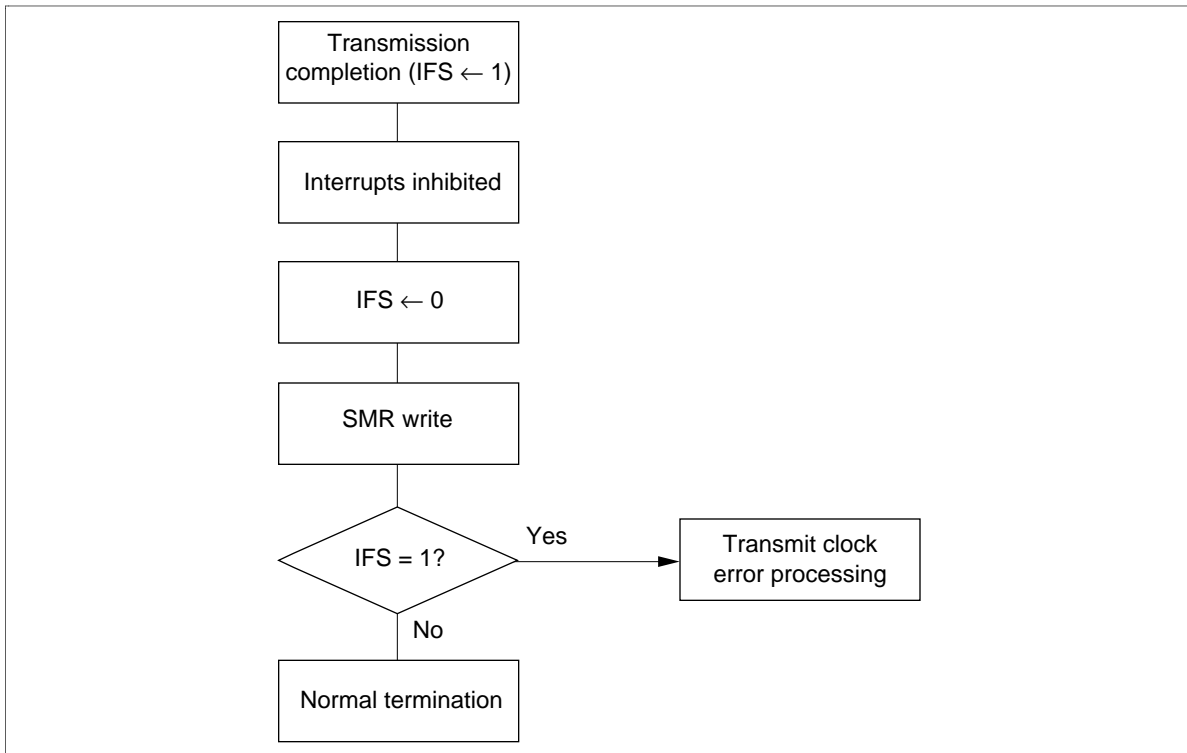

**Figure 32 Serial Interface Mode Transitions**
**Serial Interface Operation:** Three operating modes are provided for the serial interface; transitions between them are shown in figure 32.